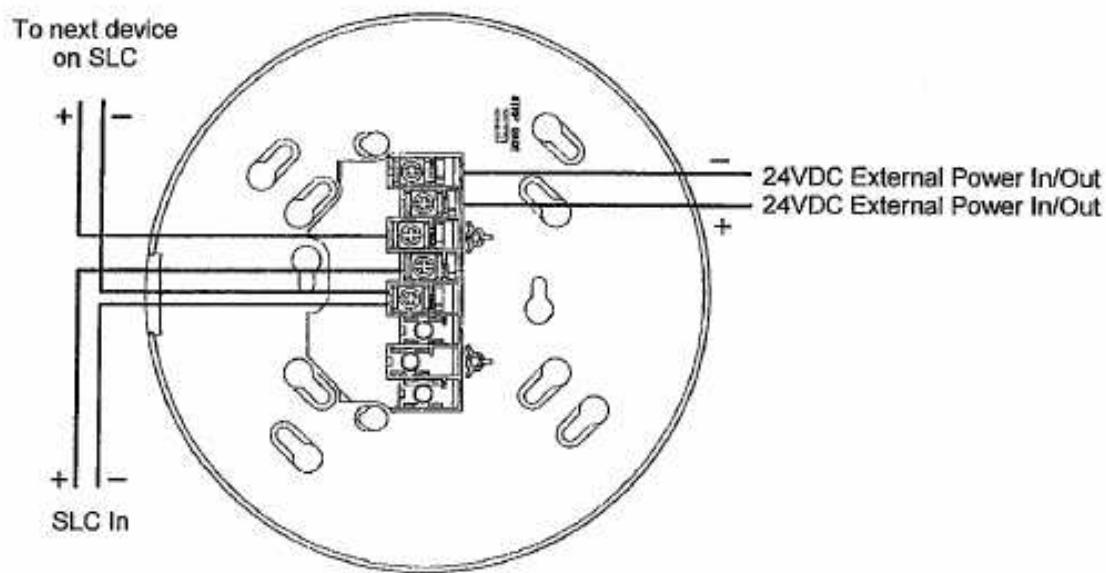

Figure 10.7 Wiring of the EBS Sounder Base
- EBS (Eclipse sounder base; Figure 10.7)
Figure 10.7 shows typical wiring of the EBS Eclipse-mode sounder base.